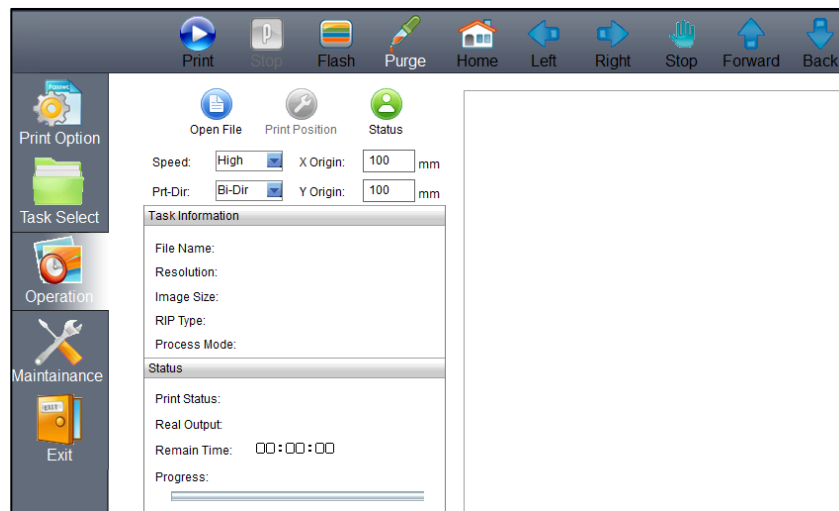

Fig 23: Displaying the Operation Menu
**Step 1:** Click on the **Open File** icon on the **Operation** screen (Refer to Fig 23). The **Open** dialog box appears on the screen, as shown below: